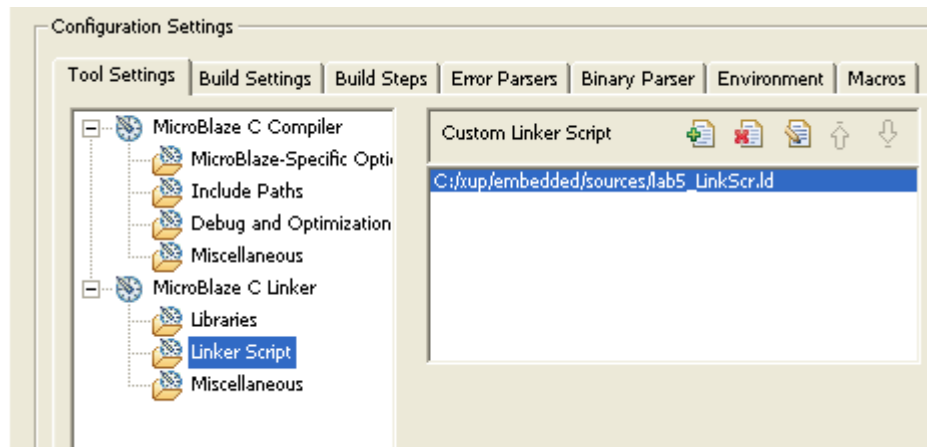

Figure 1-68. Adding Linker Script
- ③ In the left hand window of the **Properties** dialog, select the **C/C++ Build** item
- ④ Select the **Linker Script** option and click the **delete** button () to remove the TestApp_Memory_linker_script.ld script file.
- ⑤ Click the **Add** button () and add the **lab_sdk_LinkScr.ld** file (Figure 1-68).